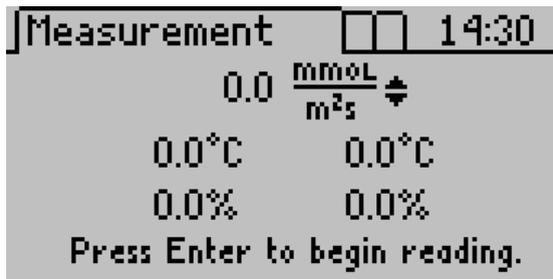

Figure 7 Measurement tab before beginning a reading
5. Press **MENU** to return to the Measurement tab (Figure 7).